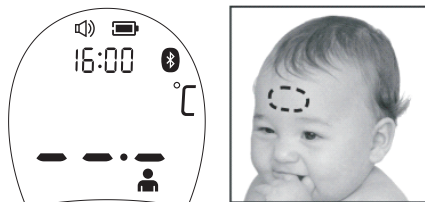
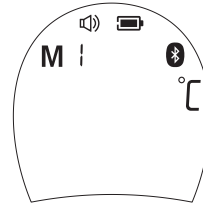

Figure 1
Figure 7
3. After self-checking, Figure 1 appears on the display screen with voice, so you can start a new measurement.
When the thermometer has been turned on and followed by Figure 1/2/6 or finished testing, press the *Memory Button*. The letter M will appear in the upper left corner of the display. (See Figure 7)